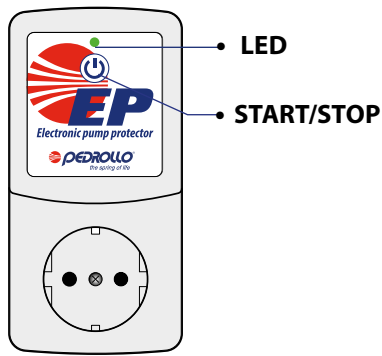

Fig. 1
- Run the pump with the delivery point open (**Fig.1**).